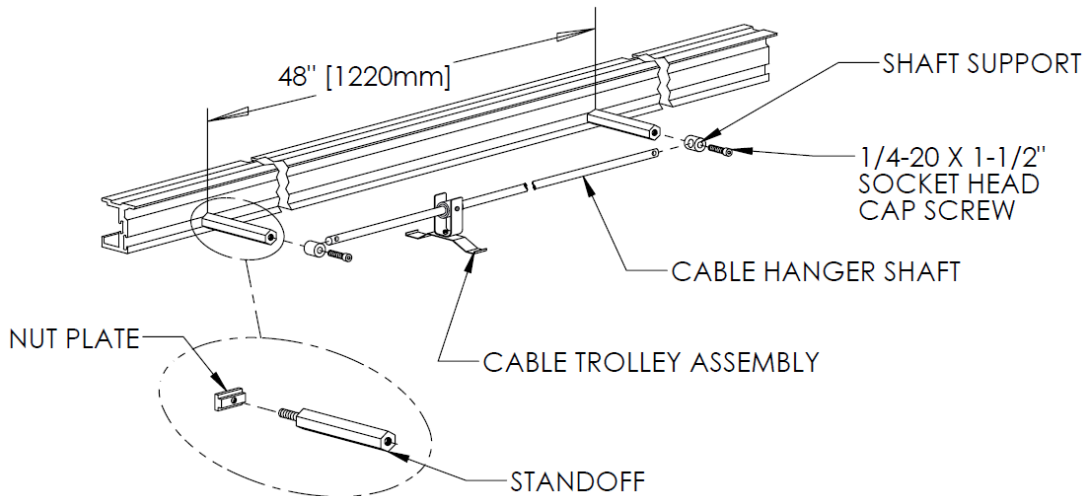

Figure 13
1. Slide two nut plates into rail track. Apply **LOCTITE #242** to the threads of two standoffs and then loosely thread into nut plates. See Figure 13